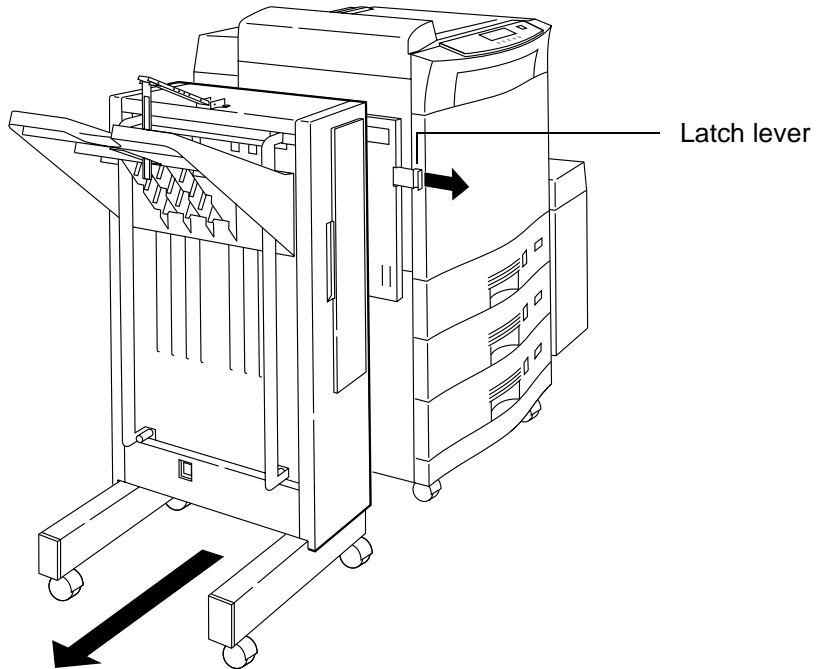

Figure 31 Separating the HCO from the printer
Step 1 Pull the HCO latch lever towards you and move the HCO away from the printer. See Figure 31.